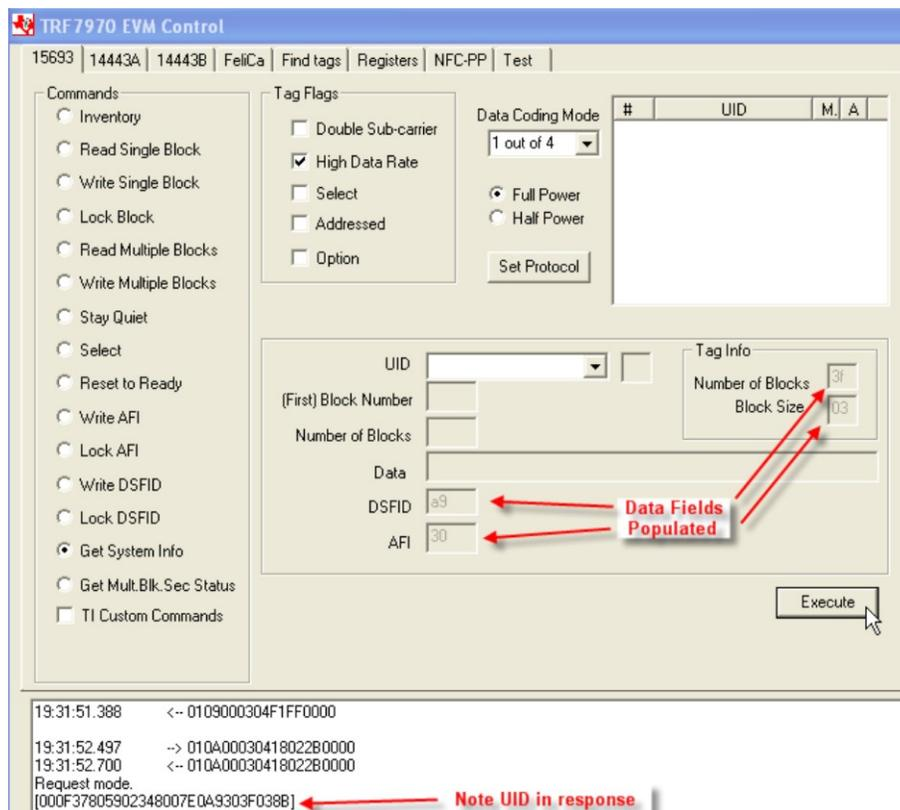

Figure 18. Get System Information Command Example
2. Select Tag Flags accordingly (see Figure 18 for one example).